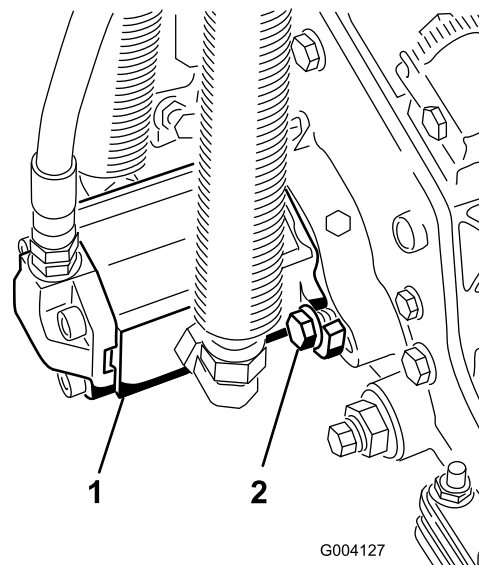

Figure 20
17. Install the motor by rotating it clockwise so that the motor flanges clear the bolts (Figure 20).